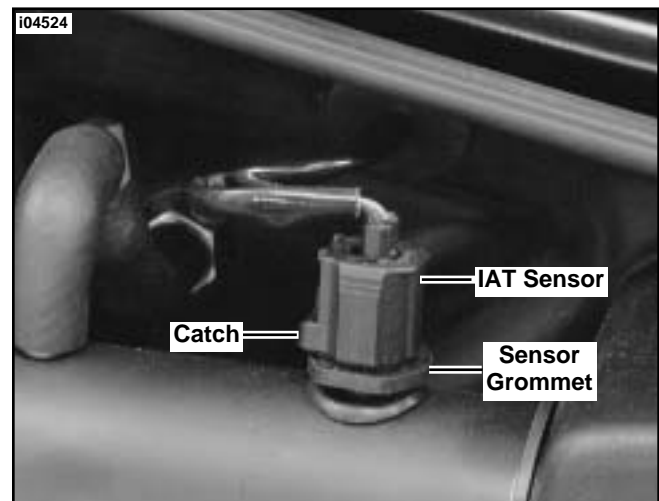

Figure 3. Remove IAT Sensor and Grommet (All)
4. See Figure 3. If IAT sensor is present, perform the following and detach IAT sensor from snorkel.
- Refer to Figure 3. If present, carefully install grommet into place on new snorkel. Insert IAT sensor into grommet.